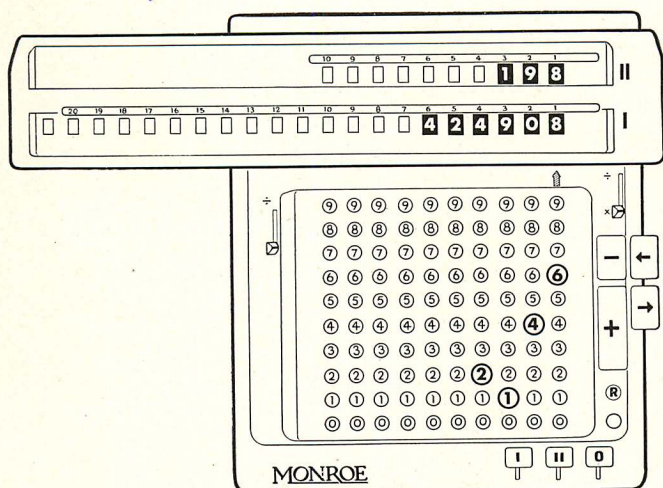

Figure 15
*Step 2*—Then shift the carriage to the left two places so that it is in the "1" position. With the minus bar subtract twice. The answer, 424908, appears in the lower dials. In the upper dials are the true figures of the multiplier, 198. See Figure 15.